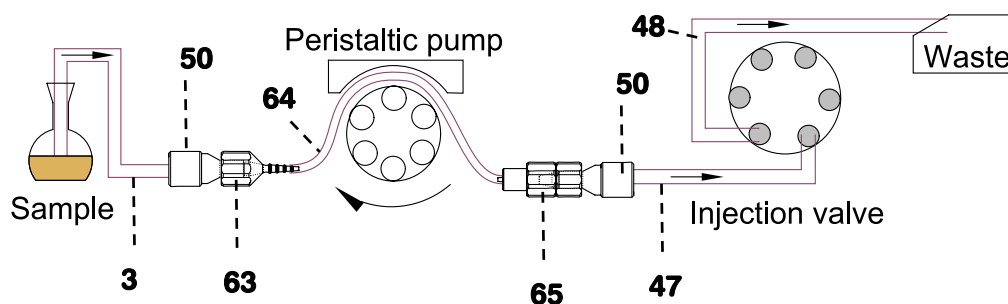

Figure 11: Flow schematic sample stream
- Detach the other end of the aspirating tubing **3** with pressure screw **50** from the injection valve (it is fitted there only for delivery purposes) and screw it firmly onto the PEEK coupling **63** on the left-hand end of the pump tubing (flow inlet) (see Figure 11).
- Screw the ends of the connection capillary **47** to the inlet of the injection valve and to the PEEK coupling **65** on the right-hand end of the pump tubing (flow outlet) using one pressure screw **50** (see *Figure 11*).
- Pull the free end of the PEEK capillary tubing **18** (see *Instructions for Use 766*) through the "feedthrough for aspirating tubing" **2** into the inner compartment of the 761 SD Compact IC and screw it on to the inlet of the injection valve which is now free (see also *Figure 11*) using a PEEK pressure screw 6.2744.010.